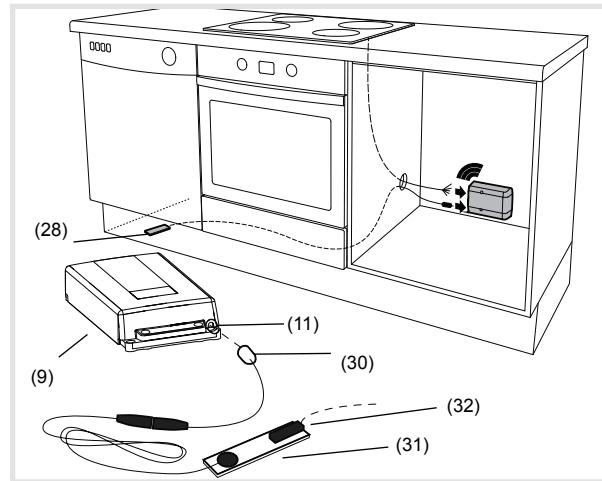

Figure 8: Mounting water leakage sensor
- (30) Water leakage sensor plug
- (31) Water leakage sensor
- (32) Connection socket for additional water leakage sensors
- Insert plug of the leakage sensor (30) into the jack on the power control unit (11).
- Place the water leakage sensor (30) under the dishwasher (Figure 8).
- Optional: Insert additional water leakage sensor into the plug (32) of the front sensor (30).